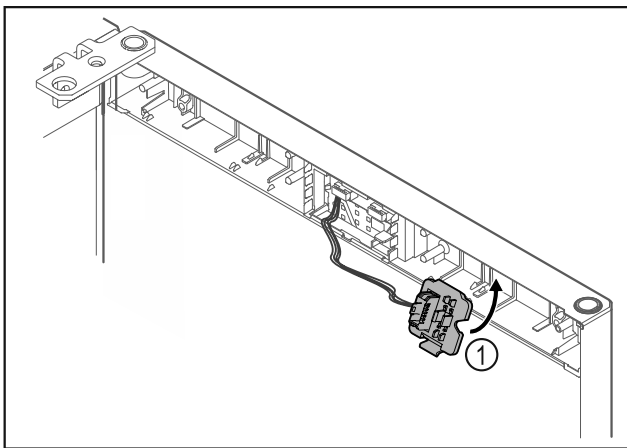

Fig. 15
- ▶ Snap in the plug holder Fig. 15 (1) on the opposite side.